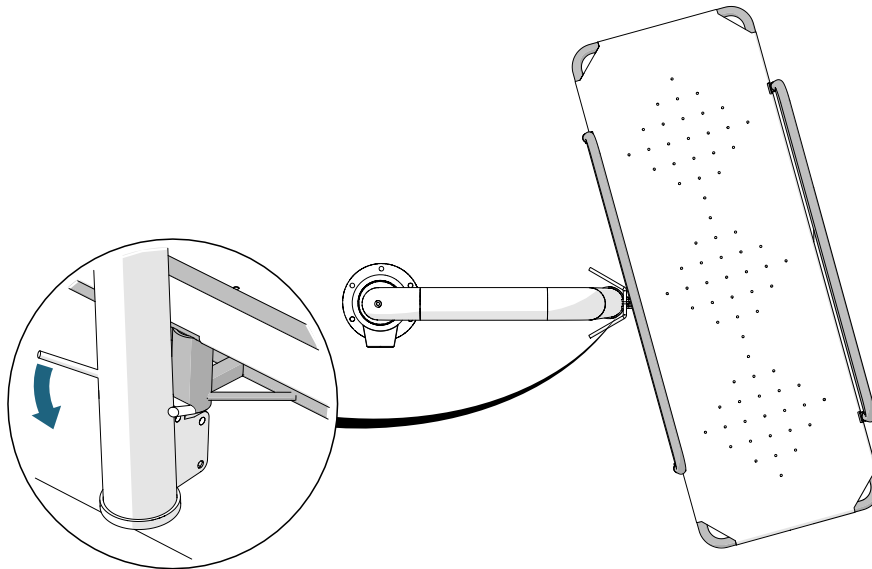

Figure 9 - Engaging the rotation lock (1)
2. Move the accessory to the position where it is parallel to the pool lift (see figure 9).